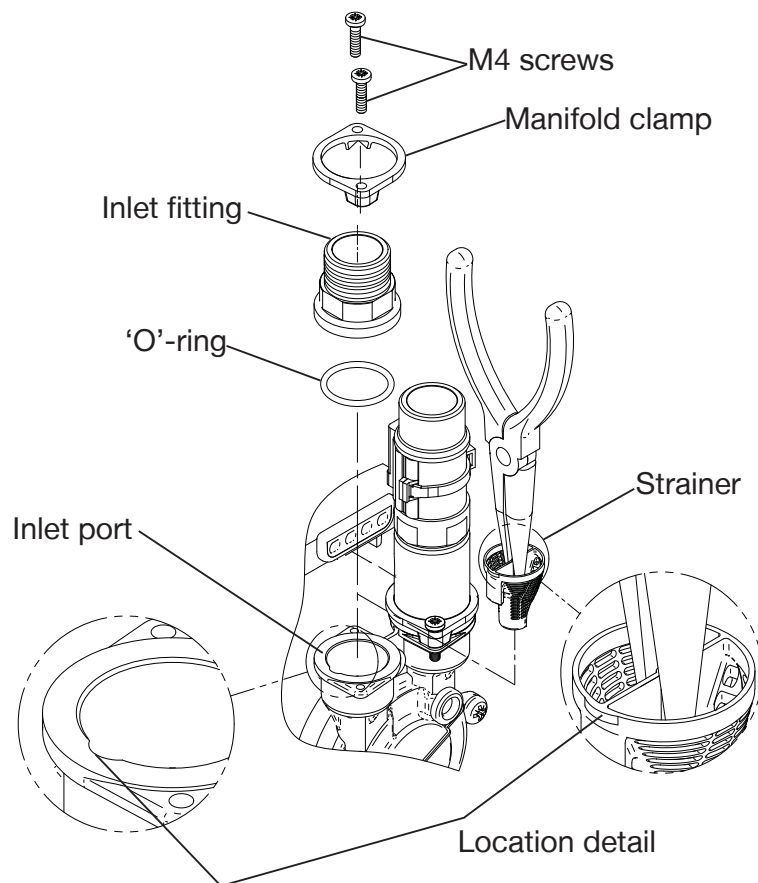

Fig. 14
6.12 **Inlet strainer:** The inlet strainers may require periodical cleaning. The frequency of this operation is dependent upon installation conditions. The strainer is located in the inlet assembly of the pump casing (see Fig. 14) and is removed as follows:-
- d) Remove M4 screws (2 off) from inlet assembly, lift brass inlet fitting (with 'O'-ring) and clamp away from pump casing (Fig. 14).
- e) Remove strainer with long nose pliers noting location lug position upon removal (Fig. 14) and clean thoroughly.
- f) Refit strainer taking care to position lug in body inlet port location slot (Fig. 14) and re-assemble pipework. Tighten M4 clamp screws to 1.5 Nm torque.